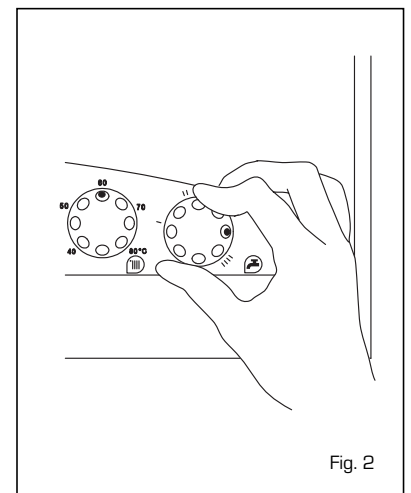

Fig. 2
- The D.H.W. temperature can be adjusted by turning the knob of the D.H.W. potentiometer (☺) which has a range of between 40 to 60°C (fig. 2).
To ensure optimal boiler efficiency at all times, we recommend not to drop below a minimum working temperature of 50°C (fig. 2).